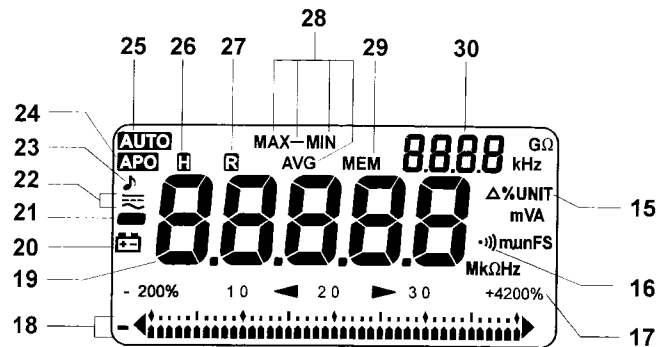

FIG 2. LCD DISPLAY (SHOWN ACTUAL SIZE)
(B) LCD ILLUSTRATION, See FIG 2